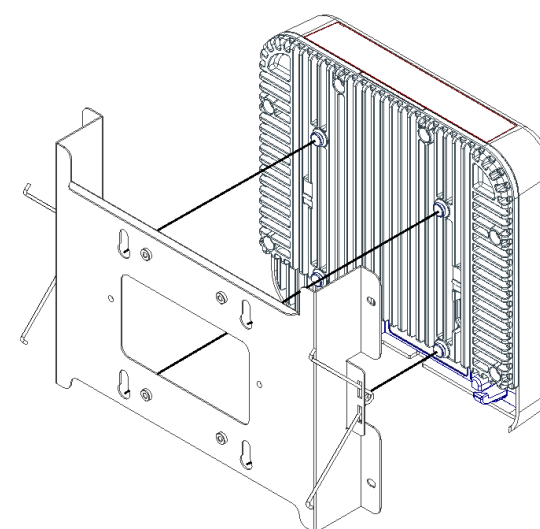

Figure 5 - Reattach Mounting Plate to Trim
Step 5 - The Cisco 2700e, 3800e, and 3800i AP's should be aligned with the Oberon mounting plate so that the flange on the bottom of the Oberon mounting plate is opposite the Ethernet ports on the AP, the mounting plate that comes with the Cisco Access point is only required for use with the Cisco 2700i. All other variations get attached directly to the Oberon mounting plate. Attach the Cisco access point to the Oberon mounting plate by inserting the mounting feet on the bottom of the Cisco access point into the keyhole slots and sliding the AP to lock into position, as shown (Figure 5).